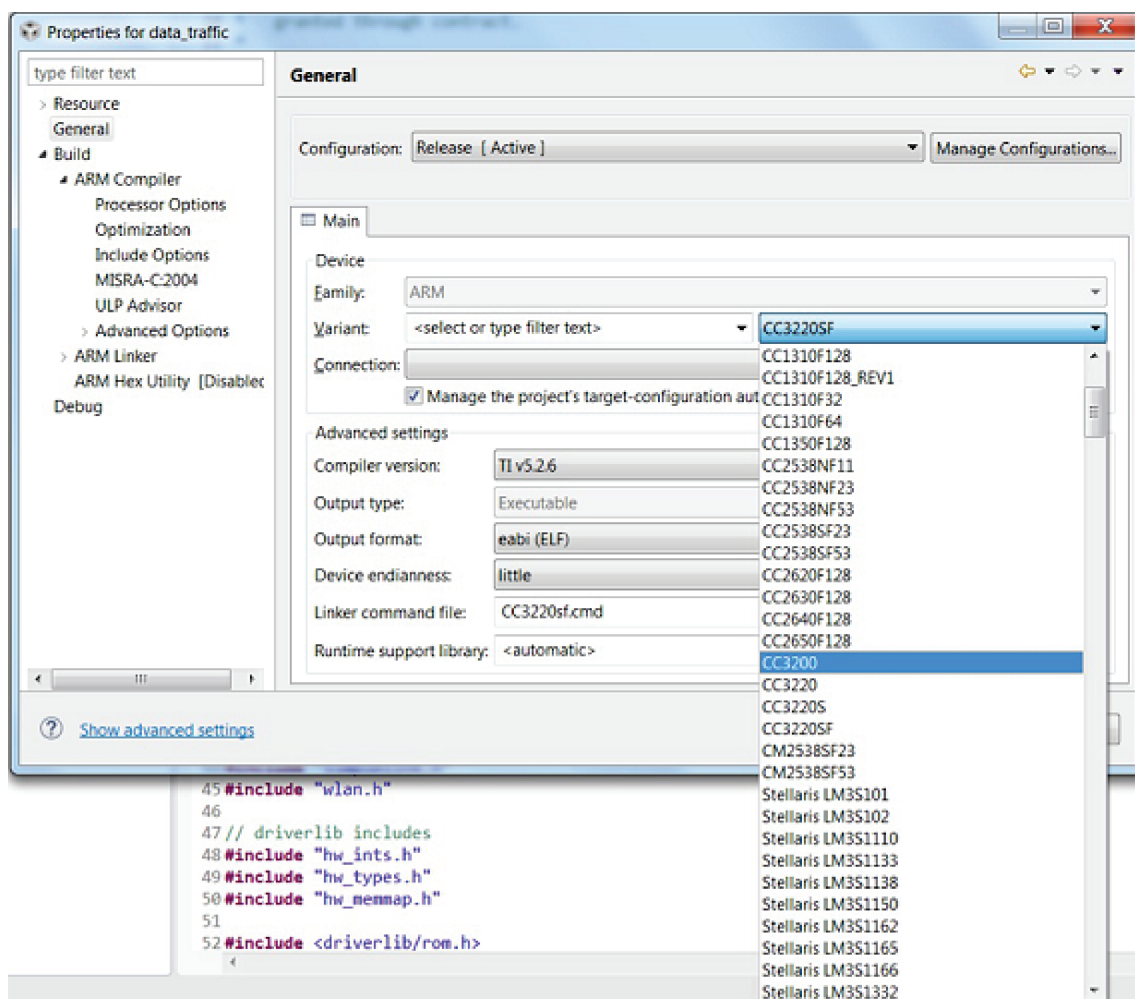

Figure 3-4. Select Device Variant
2. Select the required device variant under General → Main → Variant, as shown in Figure 3-4.